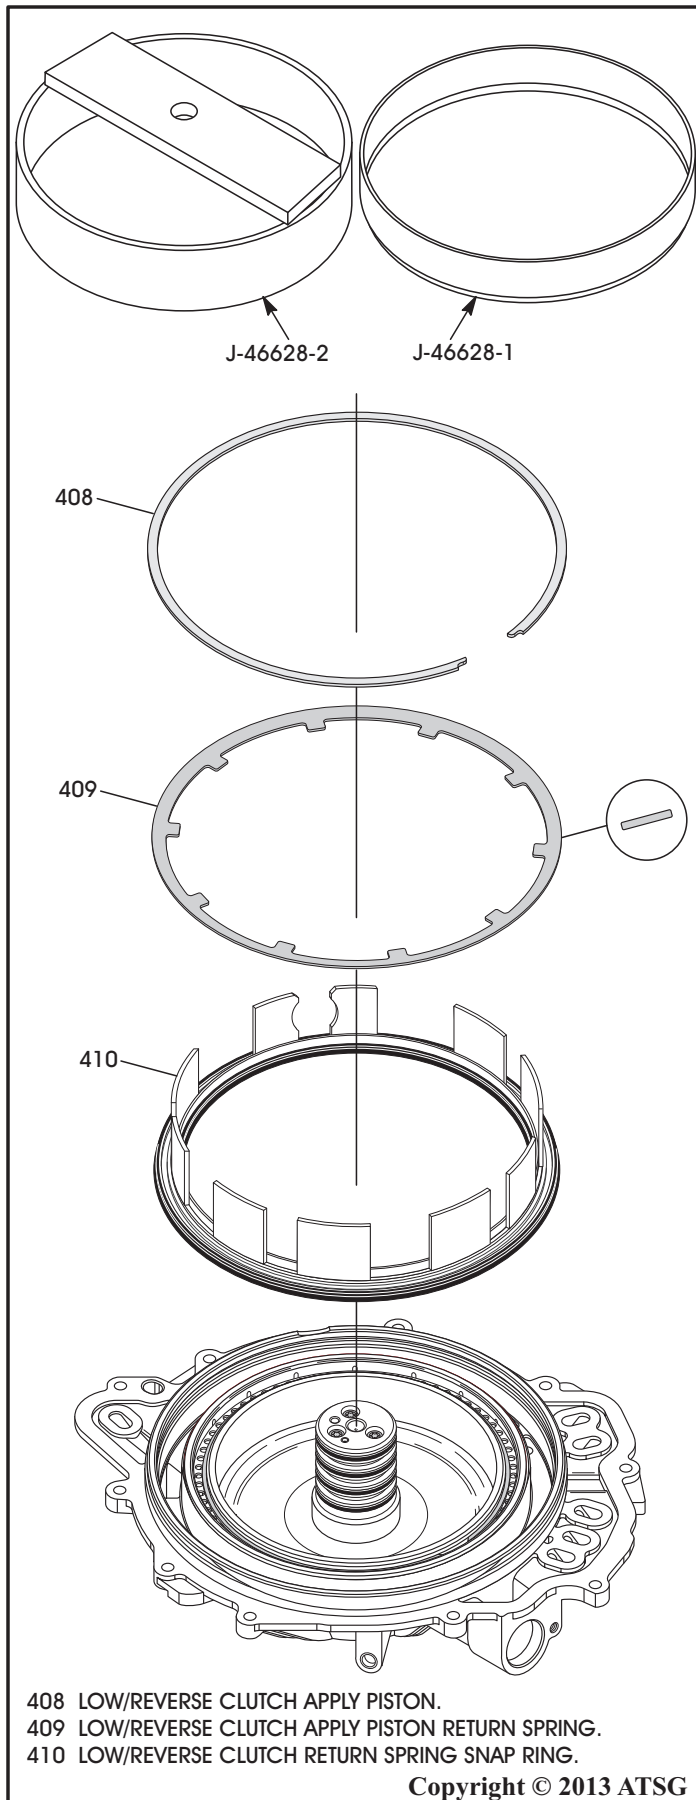

Figure 133
14. Install low/reverse clutch apply piston assembly, as shown in Figure 133, using seal protector J-46628-1.
15. Install the 2-6 clutch apply piston return spring, as shown in Figure 133.
16. Compress the return spring using the J-46628-2 compressor tool, as shown in Figure 133, and install the snap ring.